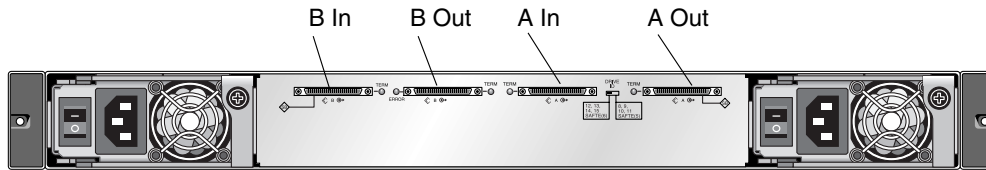

FIGURE 4-7 Sun StorEdge 3120 SCSI Array Port Names
1. To configure a JBOD unit as a single-bus configuration, connect the SCSI jumper cable between SCSI ports labeled with the SB icon, the B In and A Out ports as shown in FIGURE 4-7. Tighten the cable jack screws with six full clockwise turns to ensure proper connection and operation.